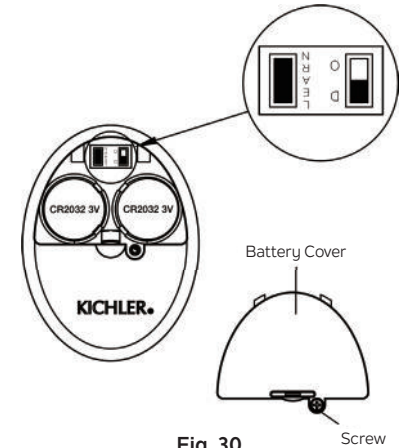

Fig. 30
Otherwise the remote control will not work. To perform this process manually, follow steps below: After installing and wiring the unit, restore power to your fan, press and hold the “LEARN” key for 1-3 seconds, and the fan will turn on at medium speed and light (if installed) will turn on. This confirms that the learning process has been completed. This operation must be completed within 30 seconds after restoring power to the fan. (Fig. 30)
NOTE: Ensure slide switch in battery compartment marked “D O” is set to “D” position. (Fig. 30)
Step 4. Replace the battery cover and tighten with screwdriver. (Fig. 30)